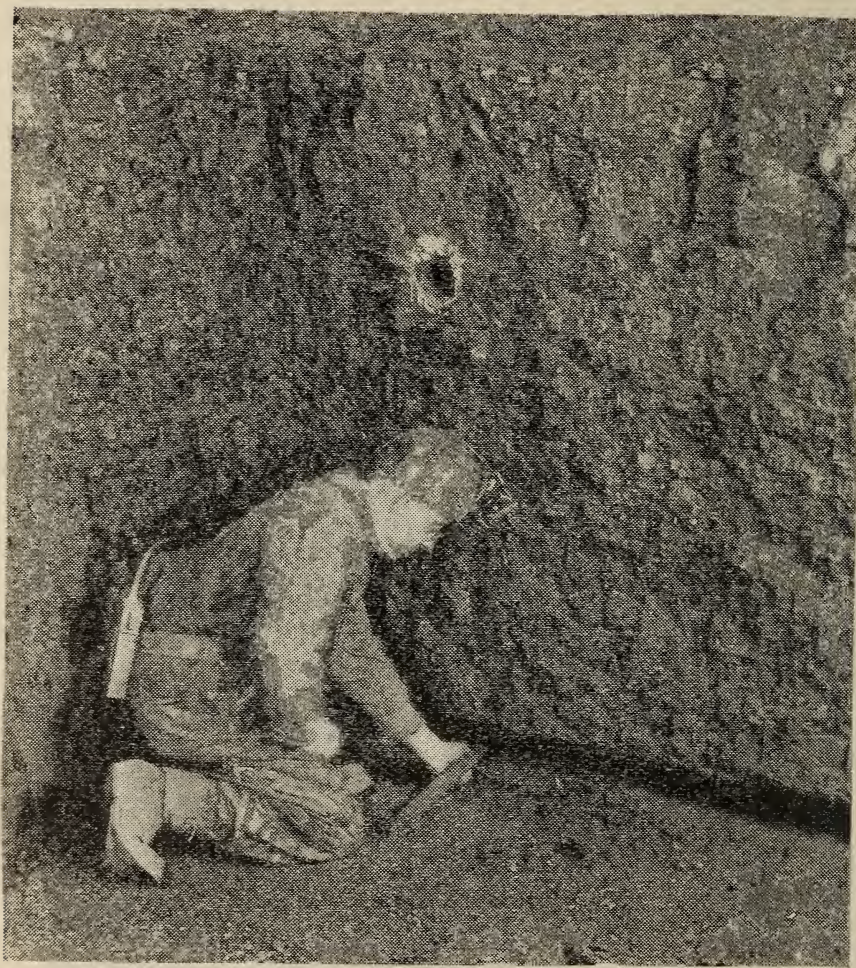

FIGURE 46.—The tamping stick is used to measure the depth of the undercut and to gage the depth and location of the borehole.
A. A wood tamping stick. (See fig. 46.)